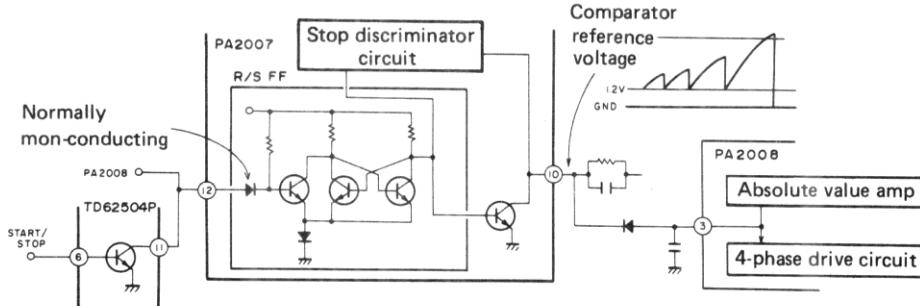

Fig. 5-6 Stop discriminator theoretical circuit
- The stop discriminator circuit functions to detect low or high rotation speed through the charge/discharge status of capacitors and resistors connected to IC PA2007 pin 10 (To/STOP), and when rotation drops below a certain speed, motor torque is dropped to zero. A theoretical circuit diagram is shown in Fig. 5-6.